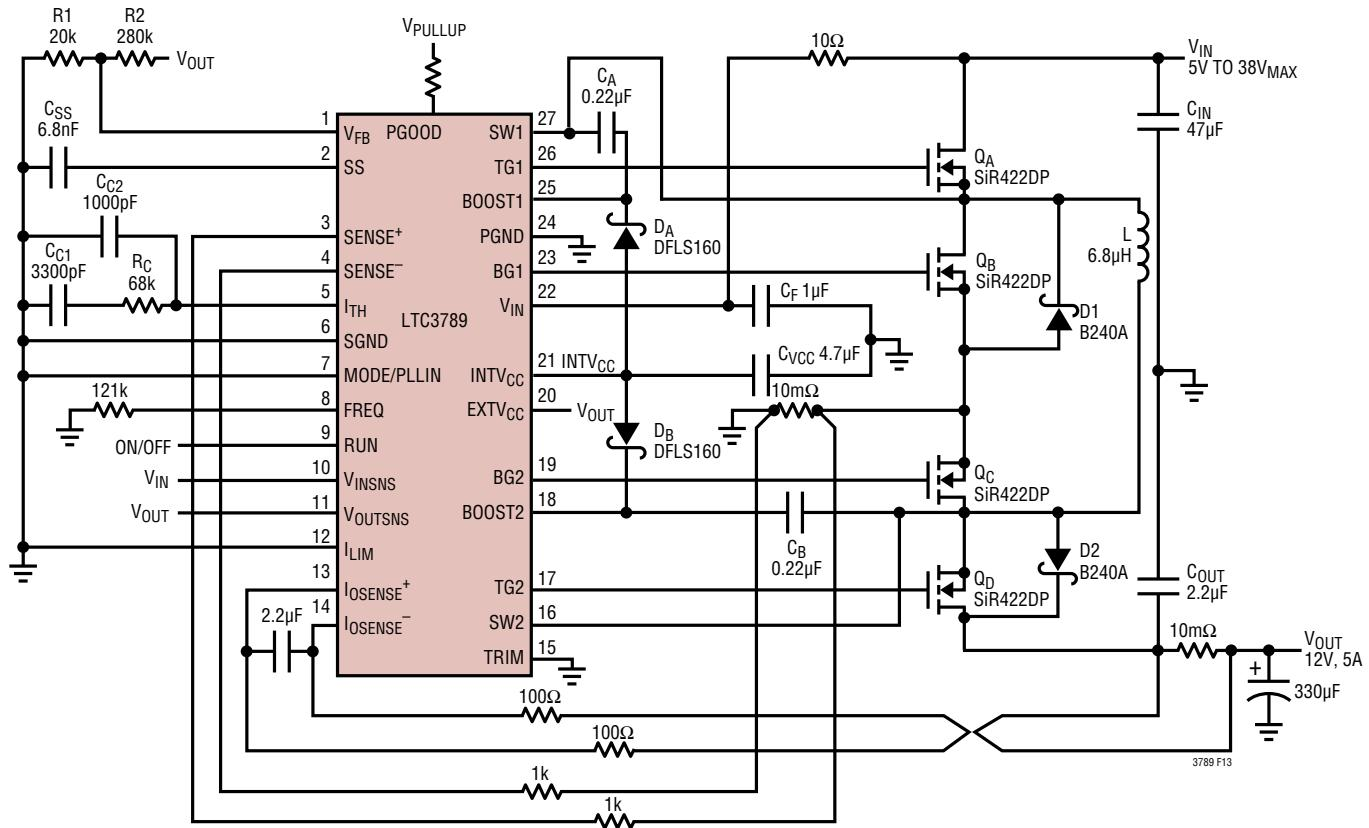

Figure 13. LTC3789 12V/5A, Buck-Boost Regulator
where R_1 and R_2 are defined in Figure 13.
Referring to Figure 13, the external bootstrap capacitors C_A and C_B connected to the BOOST1 and BOOST2 pins supply the gate drive voltage for the topside MOSFET switches A and D. When the top switch A turns on, the switch node SW1 rises to V_{IN} and the BOOST1 pin rises to approximately $V_{\text{IN}} + \text{INTV}_{\text{CC}}$. When the bottom switch B turns on, the switch node SW1 drops to low and the boost capacitor C_A is charged through D_A from INTV_{CC} . When the top switch D turns on, the switch node SW2 rises to V_{OUT} and the BOOST2 pin rises to approximately $V_{\text{OUT}} + \text{INTV}_{\text{CC}}$. When the bottom switch C turns on, the switch node SW2 drops to low and the boost capacitor C_B is charged through D_A from INTV_{CC} . The boost capacitors C_A and C_B need to store about 100 times the gate charge required by the top switches A and D. In most applications, a $0.1\mu\text{F}$ to $0.47\mu\text{F}$, X5R or X7R dielectric capacitor is adequate.
- Flood all unused areas on all layers with copper. Flooding with copper will reduce the temperature rise of power components. Connect the copper areas to any DC net (V_{IN} or GND). When laying out the printed circuit board, the following checklist should be used to ensure proper operation of the LTC3789. These items are also illustrated in Figure 13.